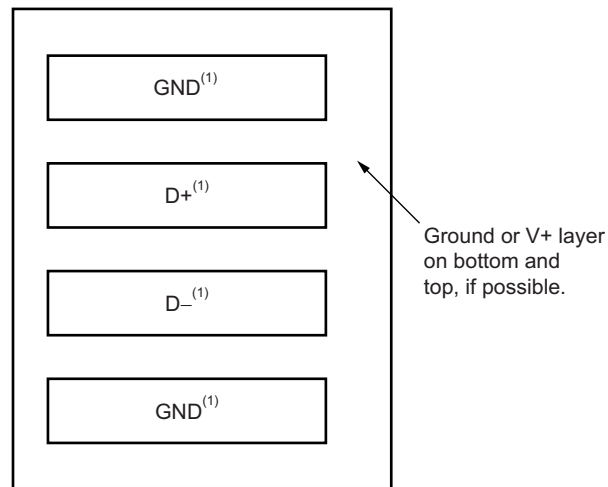

Figure 28. Example Signal Traces
2. Route the D+ and D– traces next to each other and shield them from adjacent signals through the use of ground guard traces; see Figure 28. If a multilayer PCB is used, bury these traces between ground or V_{DD} planes to shield them from extrinsic noise sources. 5-mil PCB traces are recommended.